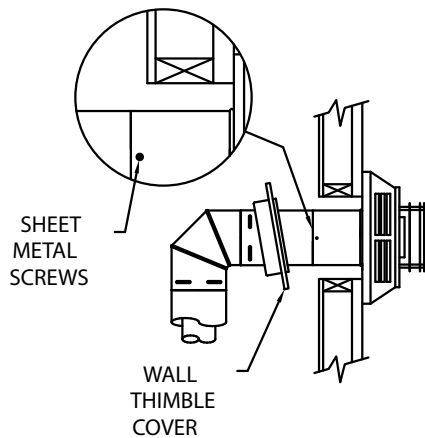

Figure 8
(2) For buildings with vinyl siding or other surfaces, the Vinyl Siding Standoff or Counter Flashing is available.
**Step 5.** Before connecting your horizontal Pipe Sections to the Horizontal Termination Cap, slide the Wall Thimble Cover over the Pipe Section nearest the interior side of wall (**Fig. 8**).
inserting the Pipe Section into the cap assembly. It is important that the Pipe Section extends into the back of the Termination Cap with a minimum overlap of 1-1/4 inches. Use the two sheet metal screws provided to secure the Pipe Section to the back of the Termination Cap. The Wall Thimble Cover will cover the screw heads (**Fig. 8**).